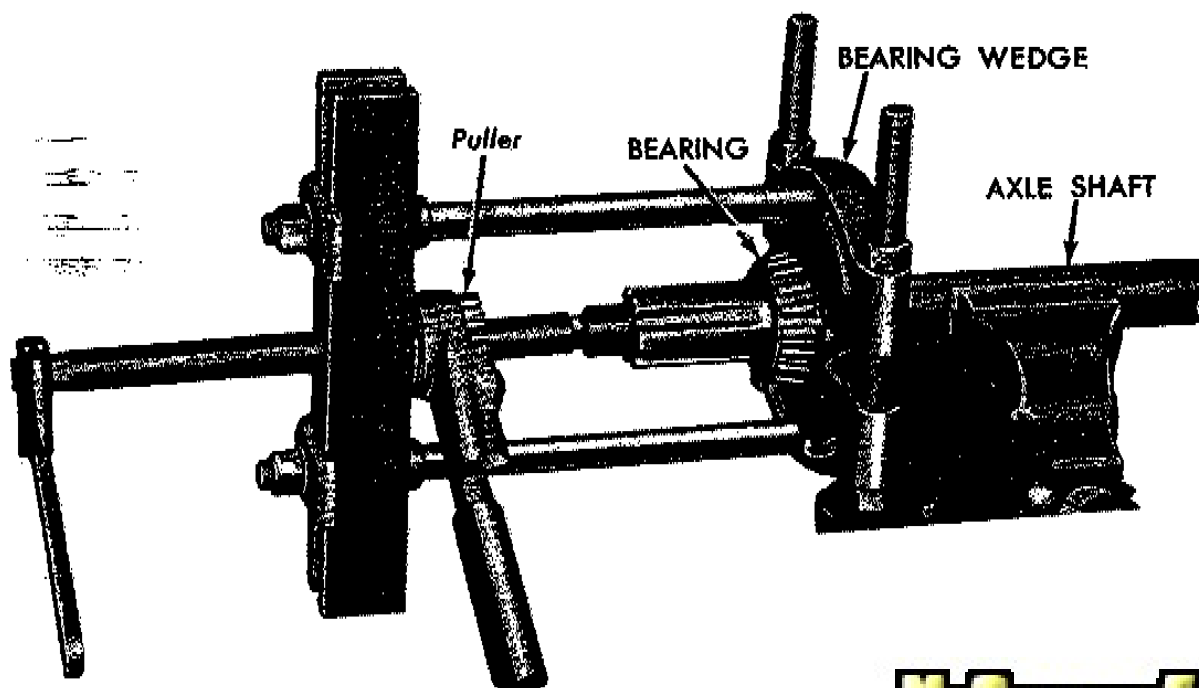
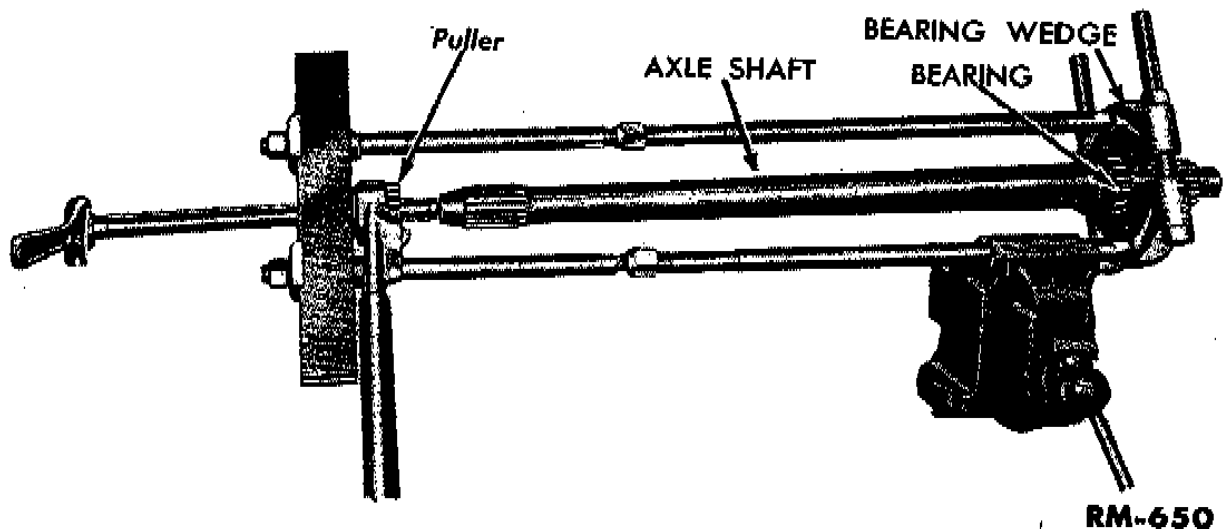

Fig. 42—Removing Axle Shaft
Fig. 43—Installing Axle Shaft Bearing
Place the pinion assembly in a vise equipped with brass jaws. Bend the ears of the lock washer off the pinion bearing lock nut. Using two thin 2 $\frac{1}{8}$ inch open-end wrenches, remove the pinion sleeve, thrust washer, and roller bearing from the pinion (fig. 42).
(1) **AXLE SHAFT BEARING REPLACEMENT.** Remove the axle shaft bearing with a puller that applies pressure on the inner race (fig. 42). To install the bearing, press it on the shaft, making sure all pressure is applied to the inner race (fig. 43).